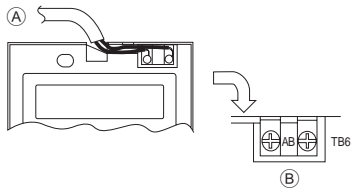

Fig. 6-4
2) Connecting procedures (Fig. 6-4)
- ① Connect the remote controller cord to the terminal block.